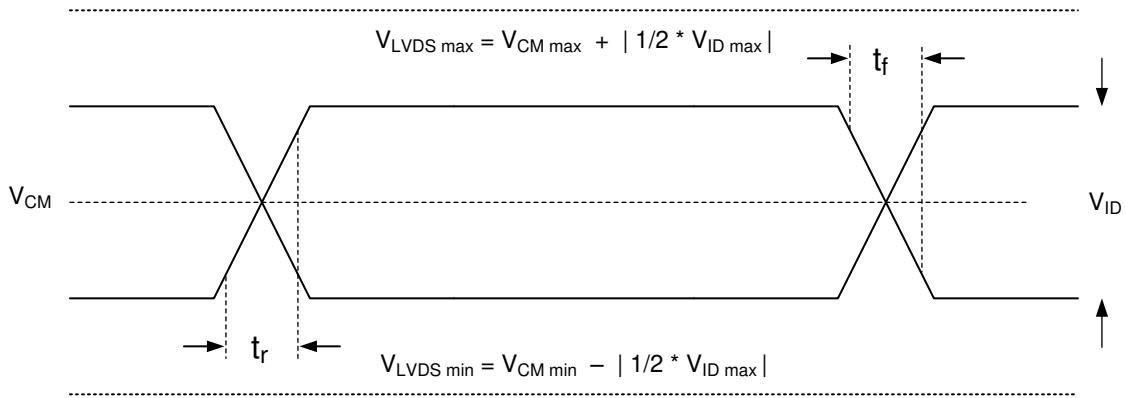

图 5-5. LVDS Waveform Requirements
- (10) Refer to 图 5-5.
- (11) Simultaneous exposure of the DMD to the maximum 节 5.4 for temperature and UV illumination reduces device lifetime.
(2) See 图 5-5 for Timing Requirements for LVDS.
(3) Channel C (Bus C) includes the following LVDS pairs: DCLK_CN and DCLK_CP, SCTRL_CN and SCTRL_CP, D_CN(15:0) and D_CP(15:0).
(4) Channel D (Bus D) includes the following LVDS pairs: DCLK_DN and DCLK_DP, SCTRL_DN and SCTRL_DP, D_DN(15:0) and D_DP(15:0).